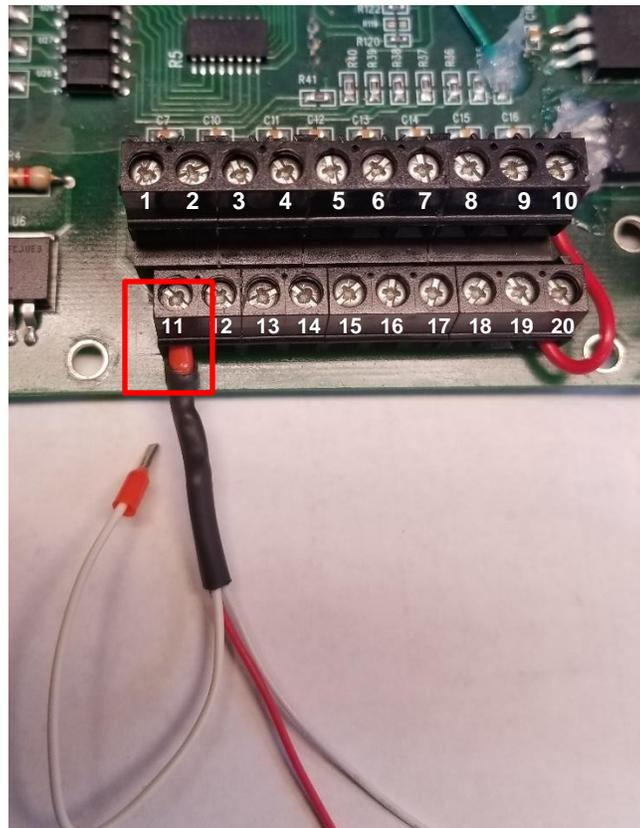

Figure 5-8: DC Power Connection
2. Wire the DC Power red and white wire bundle from the optic sensor into the #11 analog input seen in figure 5-8.